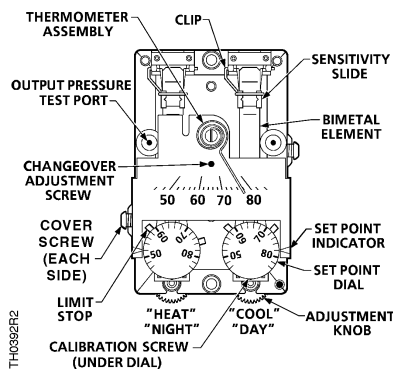

Figure 3. TH192 HC Thermostat Details.
2. Place a screwdriver in the center of the thermometer assembly (*Figure 3*). Carefully rotate thermometer assembly until pointer tip indicates the correct room temperature.
3. Place an Allen wrench in the opening of the thermometer assembly (*Figure 3*) to adjust the changeover adjustment screw as follows:
To change the limit stop settings, use a needle nose pliers to pull the limit stop (*Figure 3*) between the set point cam gear teeth. Do not pull limit stop any more than necessary to clear the gear teeth. Rotate the limit stop to its new position. Changing the limit stop position one gear tooth changes the limit stop setting by 1-1/3°F (0.7°C).
The factory thermostat sensitivity setting is approximately 2.5 psi/°F (31 kPa/°C). To change the sensitivity, use a flat blade screwdriver to carefully move the sensitivity slide (*Figure 3*) to the desired position as follows:
- If the control pressure does not read 7 to 8 psi (48 to 55 kPa), turn the calibration screw (Figure 3) using the calibration tool or a 1/8" (3.2 mm) wrench until the pressure is 7 to 8 psi (48 to 55 kPa). The sensing element is now in calibration and the set point can be changed to the desired room temperature.
- If the control pressure does not read 7 to 8 psi (48 to 55 kPa), turn the calibration screw (Figure 3) using the calibration tool or a 1/8" (3.2 mm) wrench until the pressure is 7 to 8 psi (48 to 55 kPa). The sensing element is now in calibration and the set point can be changed to the desired room